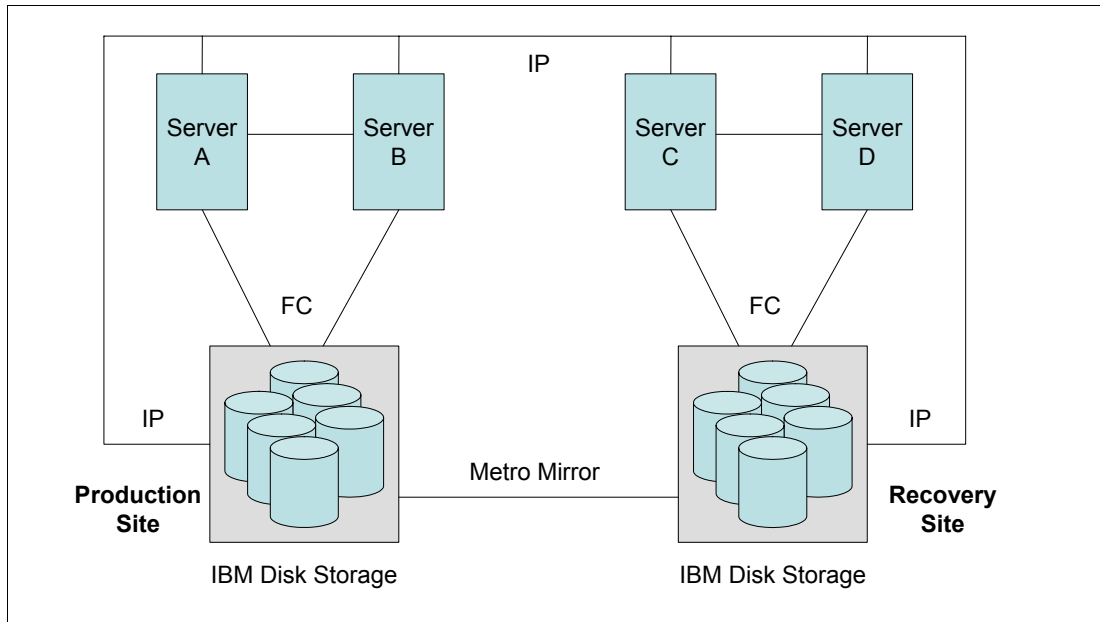

Figure 2-13 HACMP/XD
HACMP helps to provide rapid recovery of application services by automatically moving a workload running on a host server to a recovery server after a failure. HACMP Extended Distance (XD), an optional HACMP feature that helps manage data mirroring, allows HACMP to automate disk-failover management. In a single-site HACMP environment, all cluster nodes sharing volume groups have physical connections to the same disk set. In an HACMP/XD environment, the cluster nodes access the same shared volume groups, but the nodes at each site access the volume groups from different storage systems, shown in Figure 2-13.
A typical customer environment (Figure 2-13) running Metro Mirror and HACMP/XD would have a four-node, wide-area high availability cluster consisting of two local servers, server 1 and server 2, that are sharing the primary IBM disk or SVC at the primary site. Two remote servers, server 3 and server 4, share the secondary IBM storage at the recovery site. Server 1 is the primary server running an application; server 2 is the primary backup (at the primary site). Servers 3 and 4 are configured as backup servers at the secondary site. The application data is stored on the shared primary IBM diskstorage array. The shared application data is replicated through Metro Mirror over Fibre Channel links to the remote disk system at the secondary site. If cluster server 1 fails and server 2 remains healthy, HACMP can migrate the applications to server 2. All application data updates on server 2 can continue to be replicated from the primary to the secondary disk system.